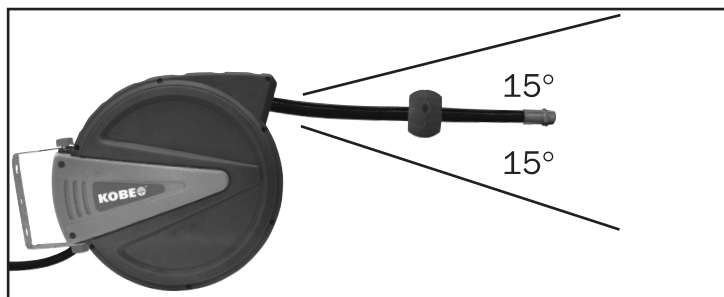

Fig. 1
1. If wall mounting, position the Hose Reel so that the hose is pulled out no more than 15° in an upward or downward direction (See fig. 1). Exceeding this can create undue drag in operation and potentially cause premature wear to the mouth opening of the Hose Reel.